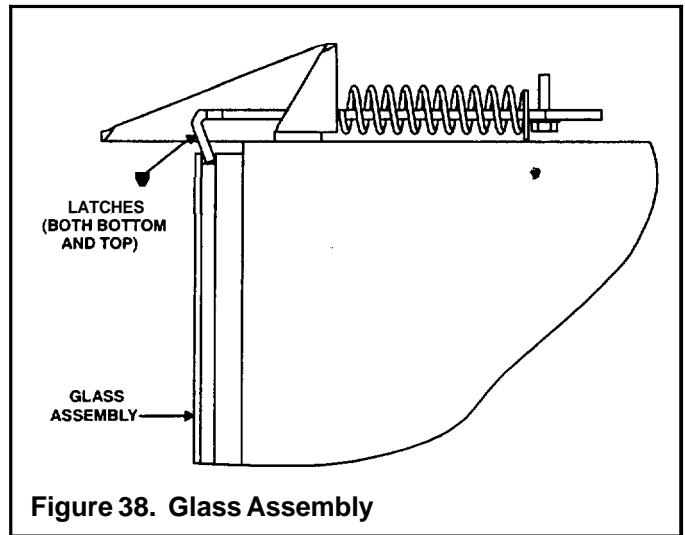

Figure 38. Glass Assembly
- Pull the four glass latches out of the groove on the glass frame. Remove glass door from the unit (see Figure 38).